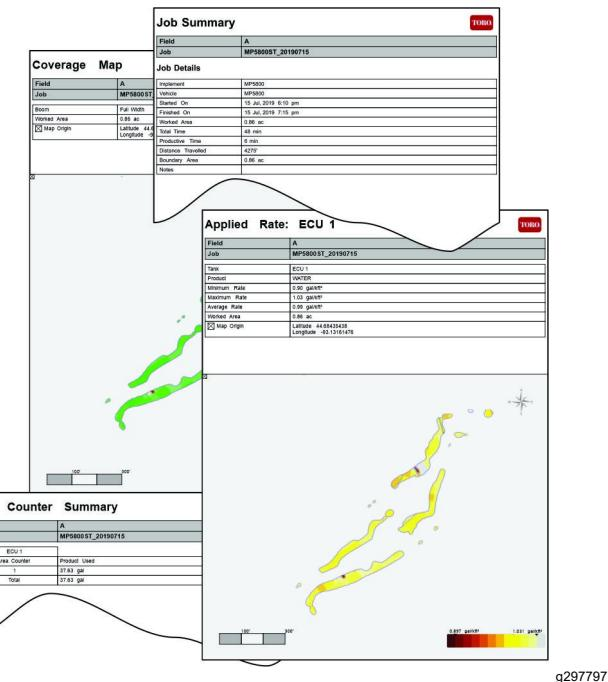

Figure 28
- Exports a job report file (.pdf); as shown in Figure 28.